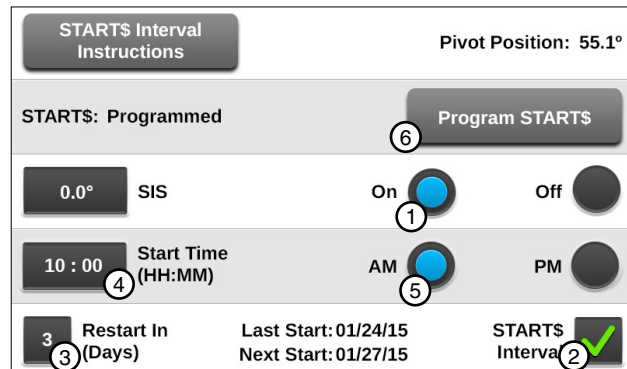

Figure 156-1 1. On 4. Start Time
1. Push **Menu**, **Programs**, **Cycles**, and **START\$ Interval** to view the START\$ Interval screen. Refer to Figure 156-1.